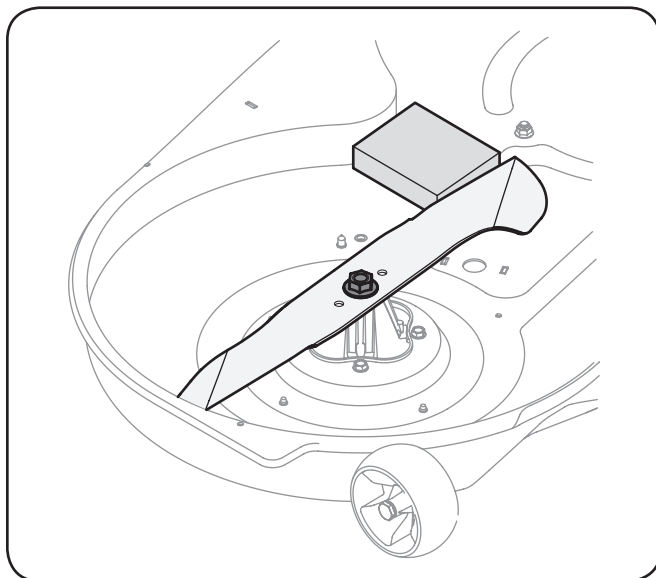

Figure 7-5
2. Place a block of wood between the center deck housing baffle and the cutting blade to act as a stabilizer. See Figure 7-5.
3. Remove the hex flange nut that secures the blade to the spindle assembly. See Figure 7-5.